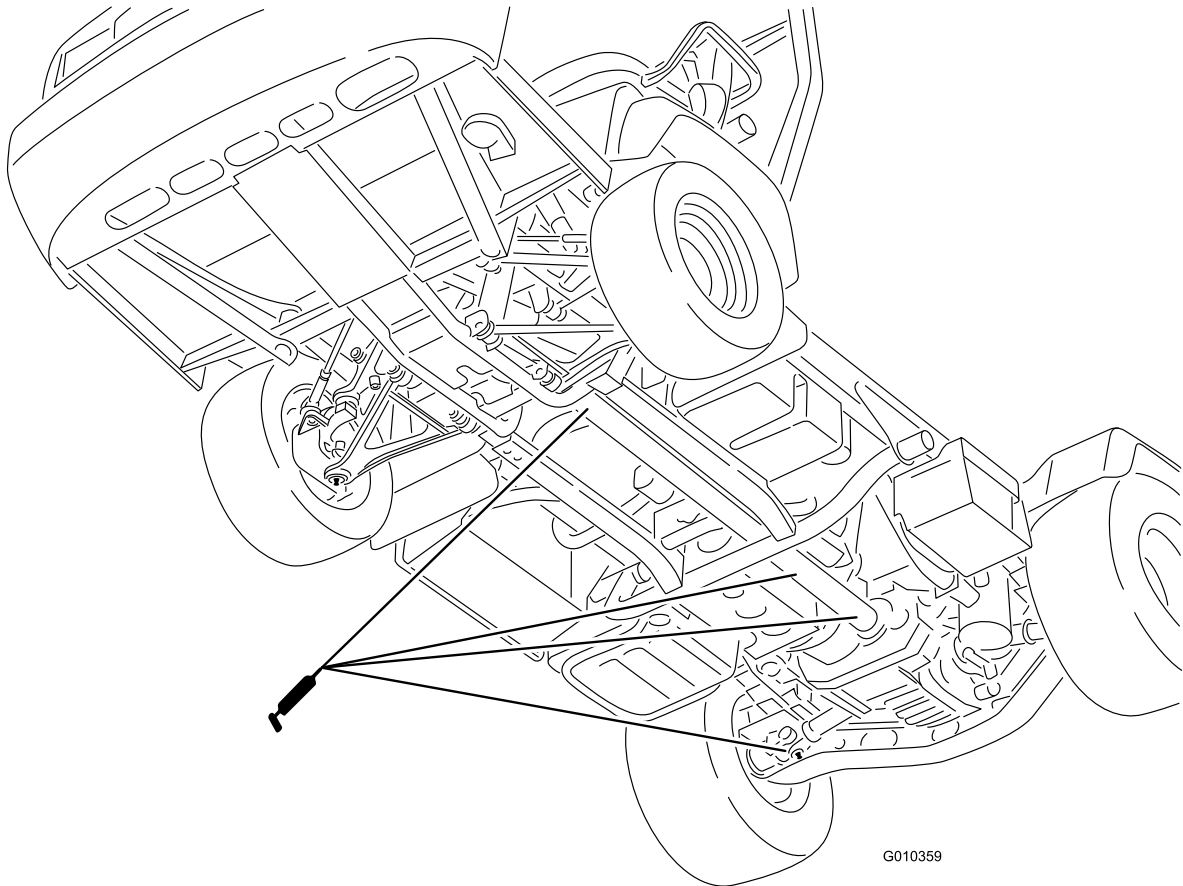

Figure 31
- **U-joint (18);** refer to Figure 31
- **4-wheel drive shaft (3);** refer to Figure 31